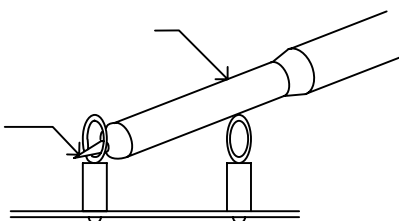

Figure 5-1. Probe Position for Ripple Measurement
7. Remove the oscilloscope probe jacket and position the probe as shown in Figure 5-1. TP17 and TP18 are implemented to provide the user with the means to achieve good noise immune measurements of ripple voltage and transient response.